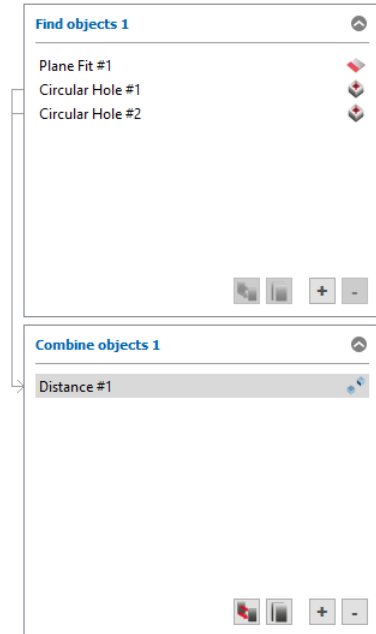

Fig. 3.50: List of active measuring programs ("Evaluation" view)
➤ Click on the "+" button (see Fig. 3.50).
- Click on the "-" button (see Fig. 3.50).